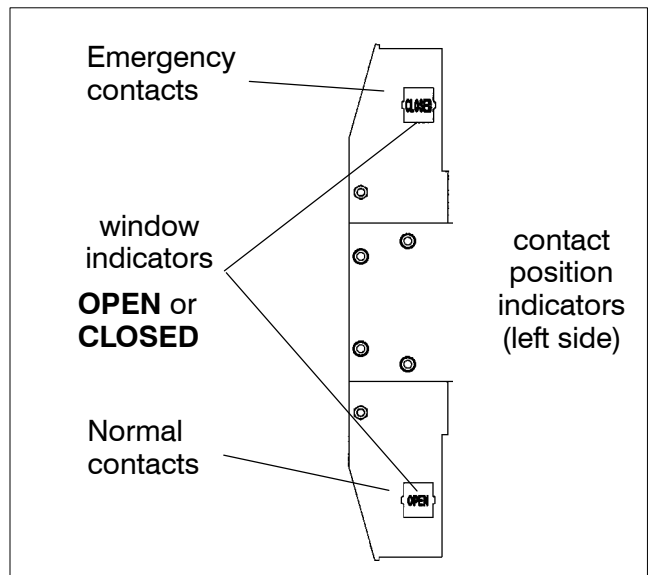

Figure 1-5. Contact position indicators on 1600–3000 amp. G–design transfer switches . Shown with Emergency closed and Normal open.
*1600 – 3000 amp. G–design* See Figures 1-5, 1-12. Install the hub (with pin) onto the shaft and insert the manual firmly into the side hole in the hub. Push in or pull out hub to engage opposite source contacts.